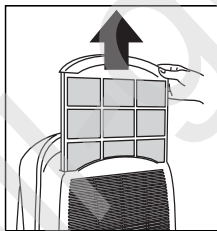

fig. 5
- Remove the air filter, by pulling it as shown in fig. 5.